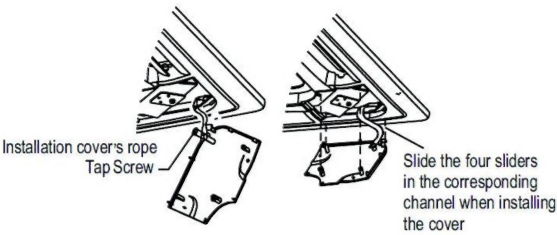

Fig.4-26
- You can modify the height of the indoor unit through the openings on the panel's four corners, if the lift of the indoor unit and the drainpipe is not influenced (refer to Fig.4-26-right).
- Fasten the rope of installation cover on the bolt of the installation cover. (Refer to Fig.4-26-left)
- Press the installation cover into the panel slightly. (Refer to Fig.4-26-right)